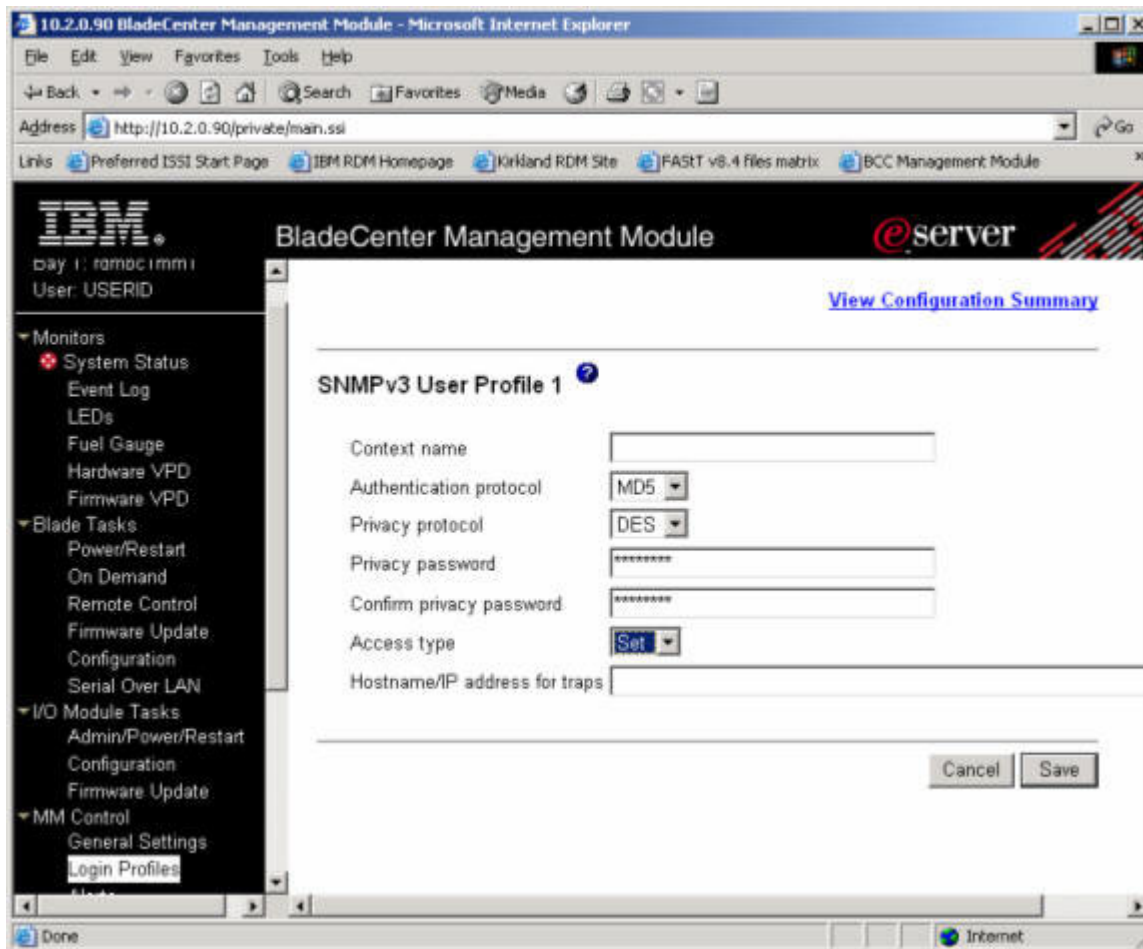

Figure 12. BladeCenter Management Module SNMPv3 User Profile panel
10. On the SNMPv3 User Profile panel (Figure 12 on page 43), select and complete the appropriate fields. Click **Save**.